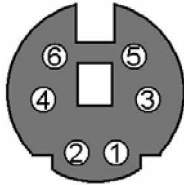

Figure 3-20: PS/2 Pinout locations
**Figure 3-20 shows PS/2 Pinout locations**